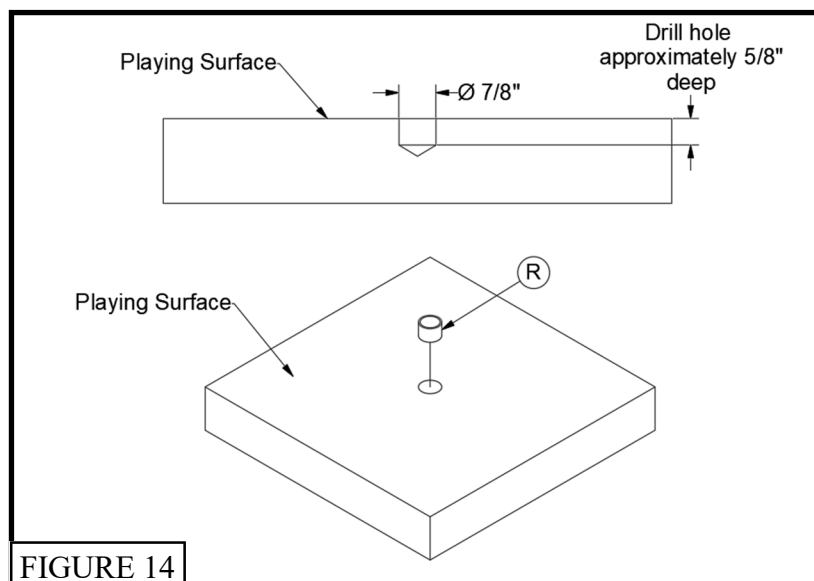

FIGURE 14
- 23 Carefully drill 7/8" diameter hole in playing surface and press in the *Floor Bushings* (R) flush with playing surface. Use construction adhesive to secure into place being careful not to leave adhesive in the inside diameter. See figure 14.